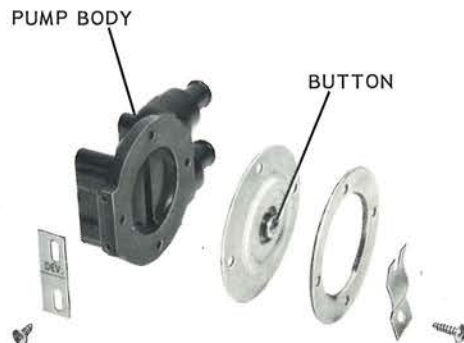

FIGURE 47 PUMP BODY ASSEMBLY (EXPLODED VIEW)
3-114. Solid deposits may be removed from the PUMP BODY, figure 47, with a ten percent solution of acid, such as sulfuric or hydrochloric. To do this, proceed as follows:
- Disassemble the pump body assembly as shown in figure 47.